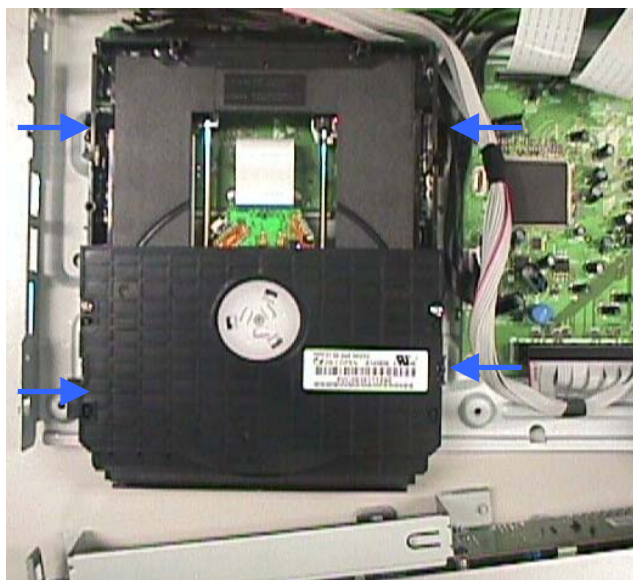

Figure 5 - Basic Engine mounting screw
- 1) To dismantle the Basic Engine without interference, it is necessary to detach the Front Panel together with the Plate Front Loader. Remove 4 mounting screw as shown in Figure 5 to detach the Basic Engine Assembly 1004 from the Frame 162.